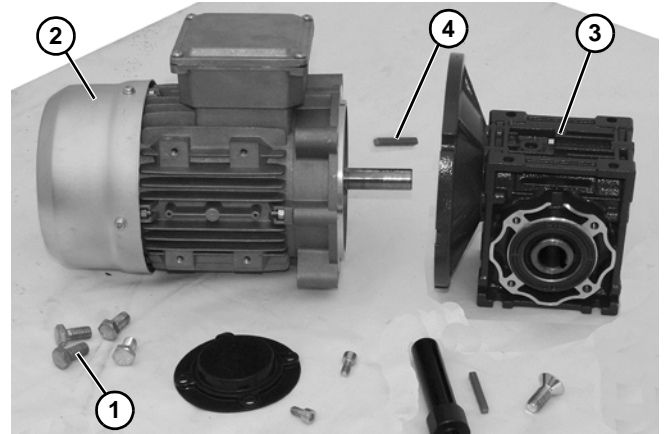

Figure 28
7. Remove four screws (**Figure 28, item 1**). Detach motor (**Figure 28, item 2**) from gear reducer (**Figure 28, item 3**). Retain shaft key (**Figure 28, item 4**).
8. Apply anti-seize to motor shaft before assembling to gearbox. With key (Figure 28, item 2) in keyway, slide motor (Figure 28, item 2) and gear reducer (Figure 28, item 3) together. Install screws (Figure 28, item 1) and tighten.
4. Apply anti-seize to motor shaft before assembling to gearbox. With key (**Figure 28, item 4**) in keyway, slide motor (**Figure 28, item 2**) and gear reducer (**Figure 28, item 3**) together. Install screws (**Figure 28, item 1**) and tighten.